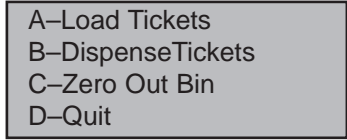

Figure 4
1. With display hood open, enter PIN, then press A–Ticket Menu (Figure 4).
1. With top hood open, enter PIN, then press A–Ticket Menu (Figure 4).